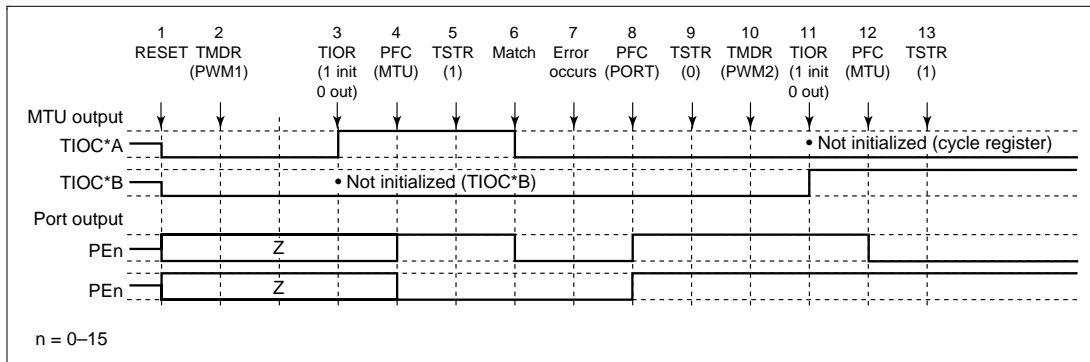

Figure 10.67 Error Occurrence in PWM Mode 1, Recovery in PWM Mode 2
(7) Operation when Error Occurs during PWM Mode 1 Operation, and Operation is Restarted in PWM Mode 2: Figure 10.67 shows an explanatory diagram of the case where an error occurs in PWM mode 1 and operation is restarted in PWM mode 2 after re-setting.